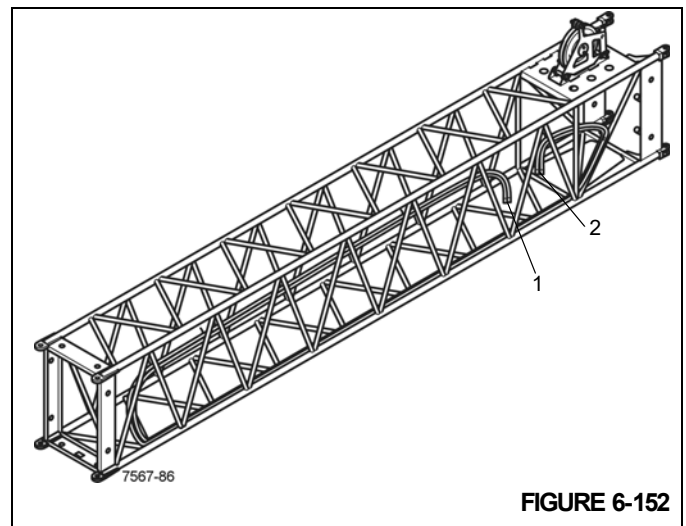

FIGURE 6-152
All hydraulic lines are located in the 26 ft (8 m) extension (Figure 6-152). The hose lines are installed so that short ends are located to the rear and long ends to the front of the extension.
The long ends (1), (Figure 6-152) of the hoses are suspended from clamps.
The short ends (2), (Figure 6-152) of the hoses are positioned at the rear of the lower cross-strut.